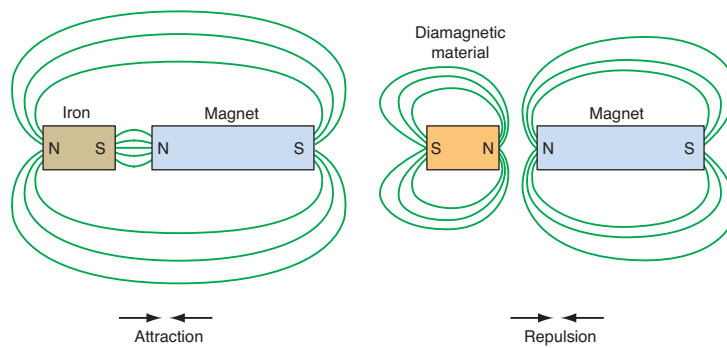

Figure 6.40 Behaviour of magnetic flux
4. Like poles of a magnet repel each other; opposite poles attract (see Figure 6.40).